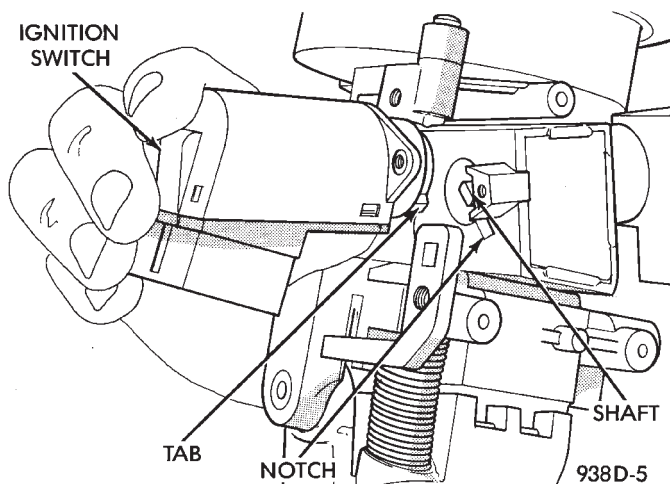

Fig. 5 Ignition Switch Alignment
- (1) A tab on the ignition switch indexes to a notch in the lock cylinder housing (Fig. 5). Also, a slot in the end of the ignition switch fits over the shaft in the end of the lock cylinder housing. Use the ignition key to rotate the lock cylinder to align the ignition switch with lock cylinder housing.
- (2) Install and tighten ignition switch mounting screws.
- (3) Attach electrical connector to ignition switch.
- (4) Install tilt lever.
- (5) Install upper and lower cover on steering column.
- (6) Connect negative cable to battery.